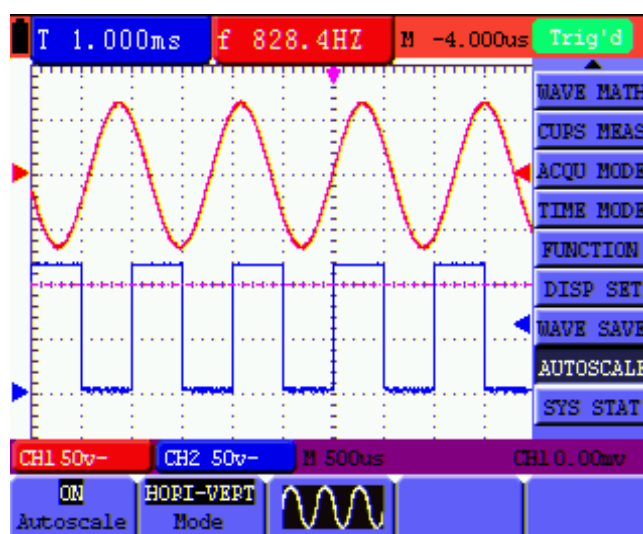

Figure 59: Autoscale Horizontal- Vertical multi-period waveforms
5. Press **F3** and  displays on the screen as figure 59: